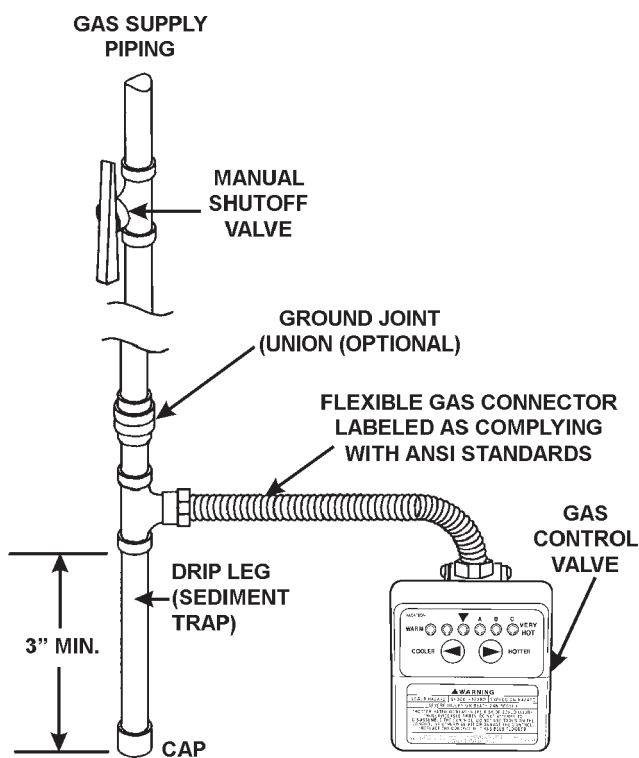

FIGURE 49. GAS PIPING WITH FLEXIBLE CONNECTOR.
Connecting the gas piping to the gas control valve of the water heater can be accomplished by either of the two methods, shown in Figures 49 and 50.
A sediment trap shall be installed as close to the inlet of the water heater as practical at the time of water heater installation. The sediment trap shall be either a tee fitting with a capped nipple in the bottom outlet or other device recognized as an effective sediment trap. If a tee fitting is used, it shall be installed in conformance with one of the methods of installation, shown in Figures 49 and 50.
1. "Wake Up" the temperature indicators by holding down both "COOLER" and "HOTTER" temperature adjustment buttons at the same time for one second, see Figure 49. One or two of the temperature indicators will light up. These indicators will only remain on for 30 seconds if no further buttons are pressed. After 30 seconds the control will go back to "Sleep" mode.